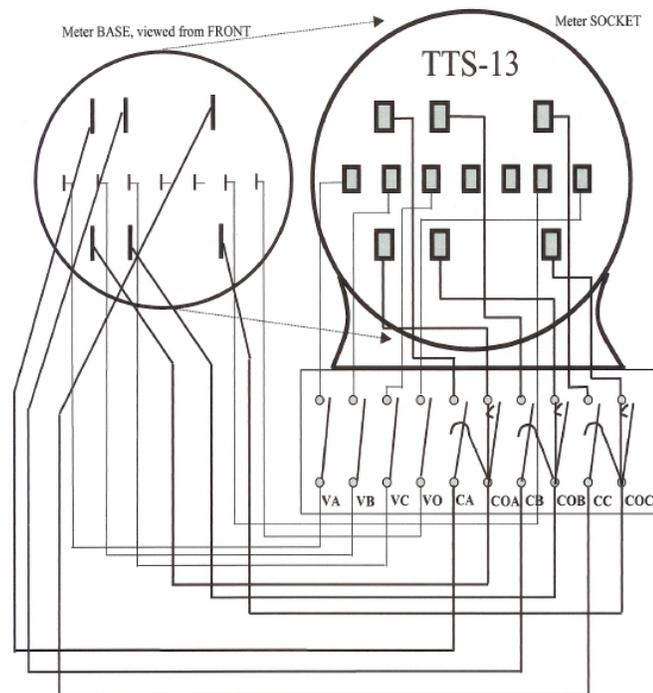

Fig. 1
3. Connect the 3-Phase Voltage Cable leads to the potentials of the test switch according to the wiring diagram shown in "Fig. 1" (VA=red, VB=yellow, VC=blue, VO=white, Ground=green)
4. Insert the 3-Phase Test Switch Current Direct Probes into the current return of the test switch according to the wiring diagram shown in "Fig. 1" (COA=red, COB=yellow, COC=blue). For safety, shunt the CT currents (CA, CB, CC) *before* inserting the probes. After insertion, re-engage the CT currents.